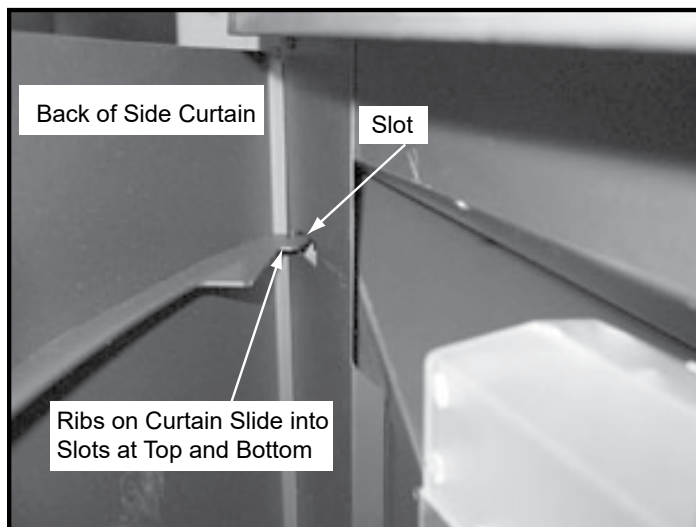
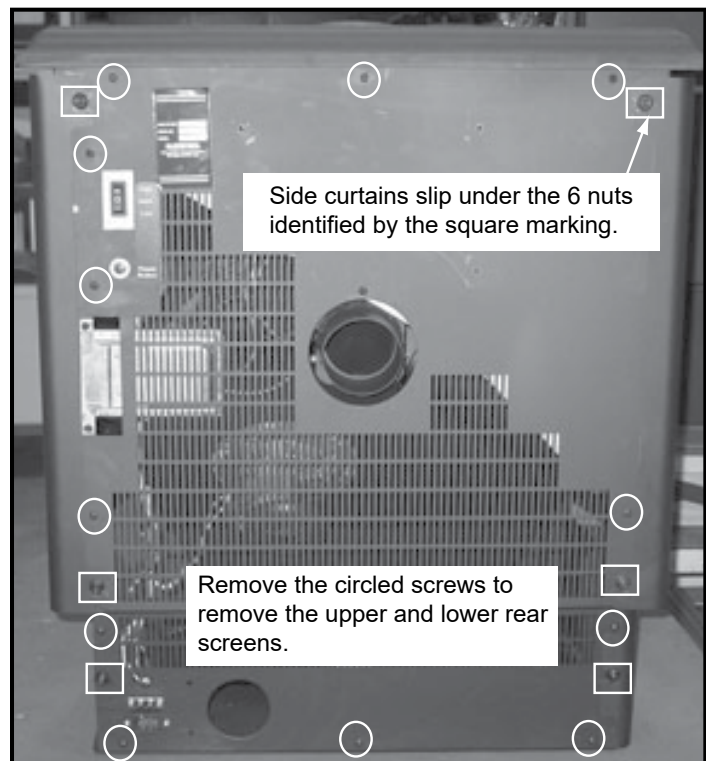

Figure 25.1
Figure 25.3
- Remove the right upper and lower side curtains by loosening 7/16" nut in the back and lift off of the appliance. When re-installing flex curtain to re-attach (**Figure 25.1**).
- Remove both upper and lower side curtains (**Figure 25.1**). Remove the upper and lower rear curtains (**Figure 25.3**).